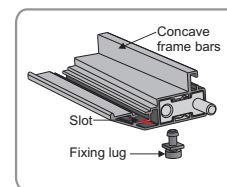

Figure 1
1. Put the fixing lugs into the slots of top and bottom bars, taking the following table as reference. ( Figure 1 - 2 )